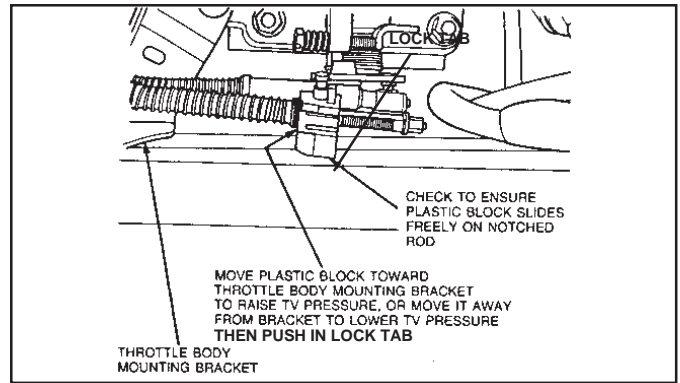

Figure 28
- 7.12 Using mark or measurement on plastic block as a reference, move plastic block towards throttle body mounting bracket to raise TV pressure, or move it away from bracket to lower TV pressure. Push in white locking tab to lock block in position. **(See Fig. 28.)**